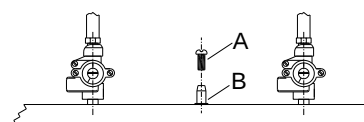

Fig. 2
4.1 Checking the supply pressure (Fig. 2)